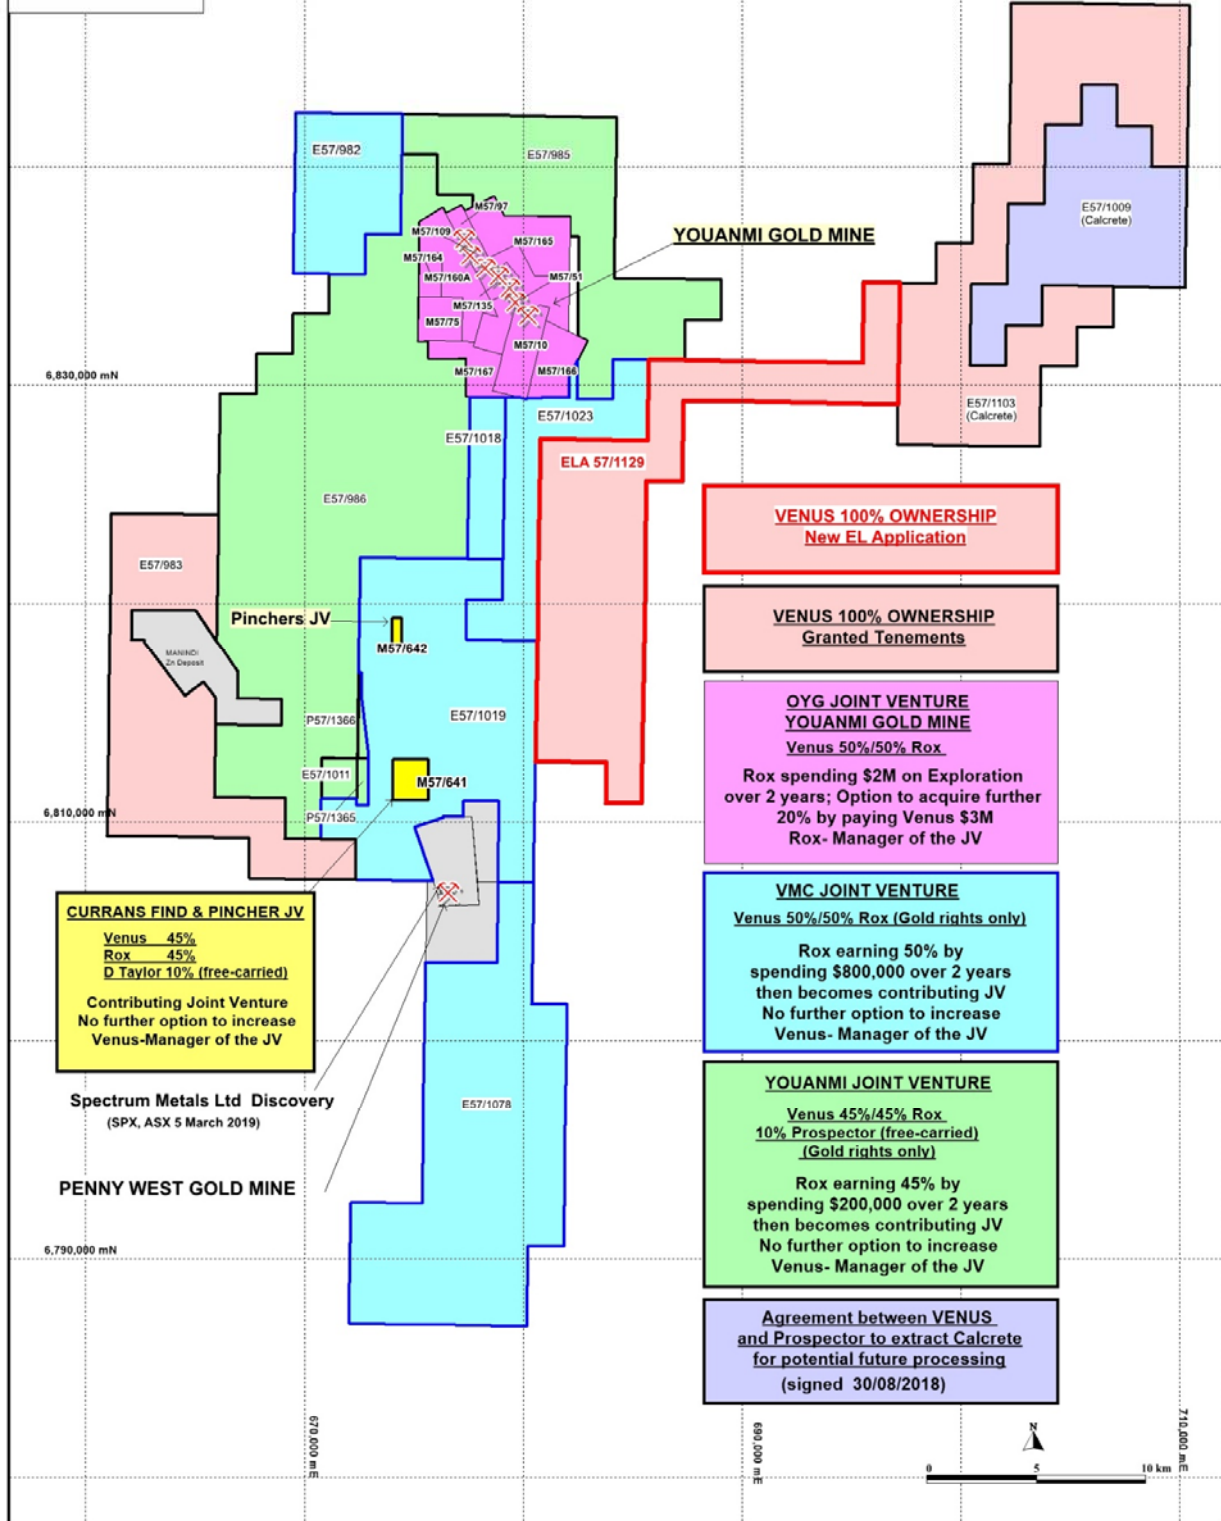

Figure 1
- **A multi-element geochemical anomaly measuring c. 400m x 600m at the Penny West Deep South Gold Prospect on E57/1078 (Figure 1) c. 4km south of the historical Penny West Gold mine has been delineated from a recently completed geochemical survey.**